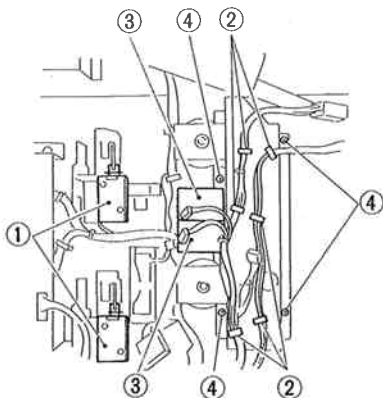

Figure 4-242
- 2) Push the front tray release solenoid ① to release the front tray; see Figure 4-242.
- 3) Detach the harness from the harness guide ②, and disconnect the two connectors from the lifter motor ③; see Figure 4-242.
- 4) Remove the four mounting screws ④, and detach the front tray lifter drive assembly.